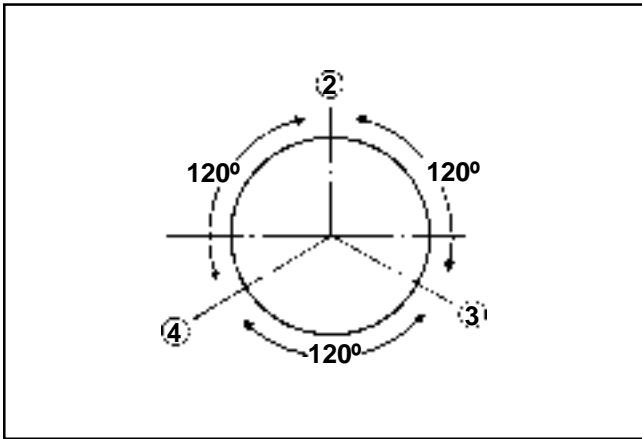

Figure 11-12. Piston Ring Gap Positioning.
2. Stagger the piston rings in the grooves until the end gaps are 120° apart. See Figure 11-12. The oil ring rails should also be staggered.